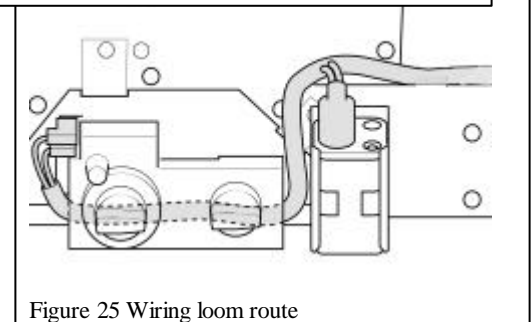

Figure 25 Wiring loom route
When replacing, make sure that the wiring loom runs above and to the left of the battery box and behind the control valve. See figure 25. The motor lead connectors are two different sizes. They will only fit to the correct motor terminals.
- When replacing, make sure that the wiring loom runs above and down to the left of the battery box and behind the control valve. See figure 25.